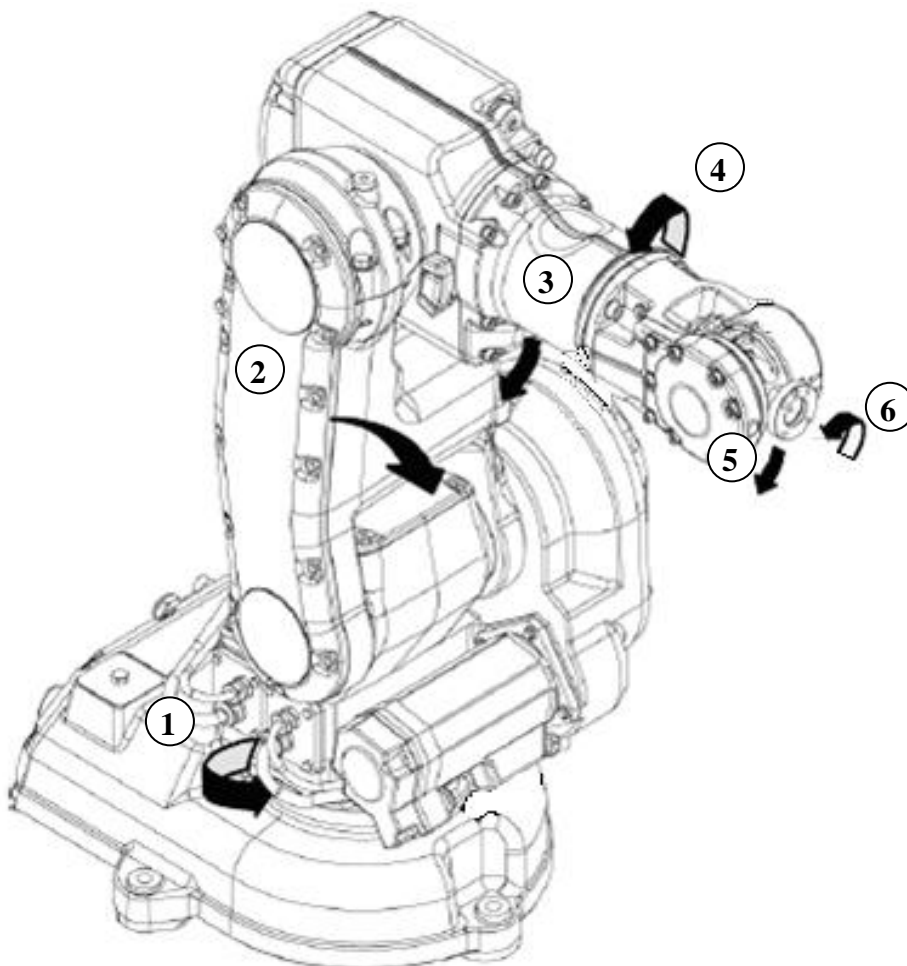
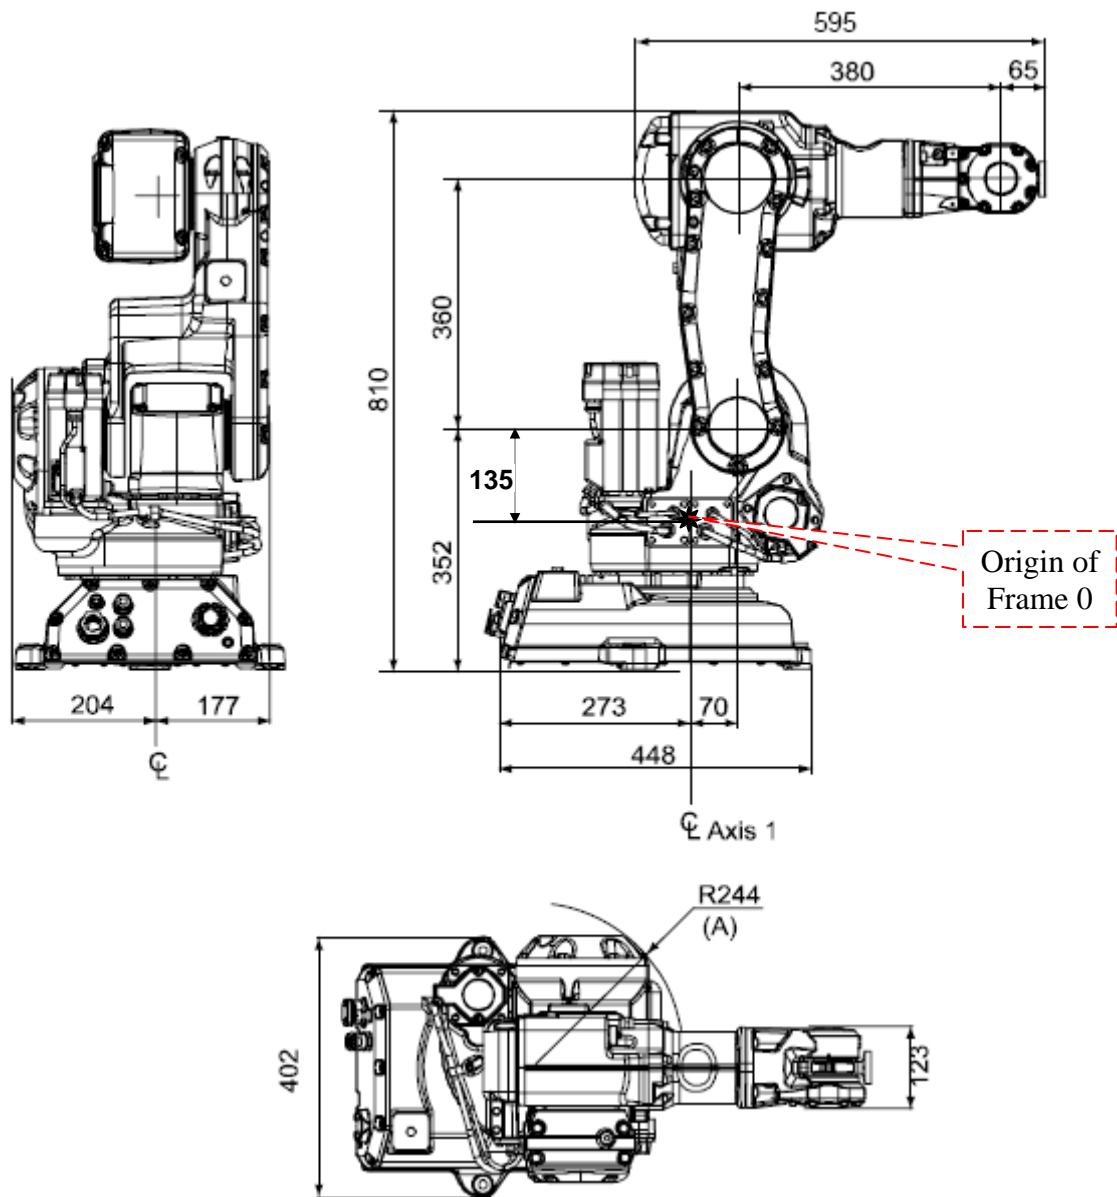
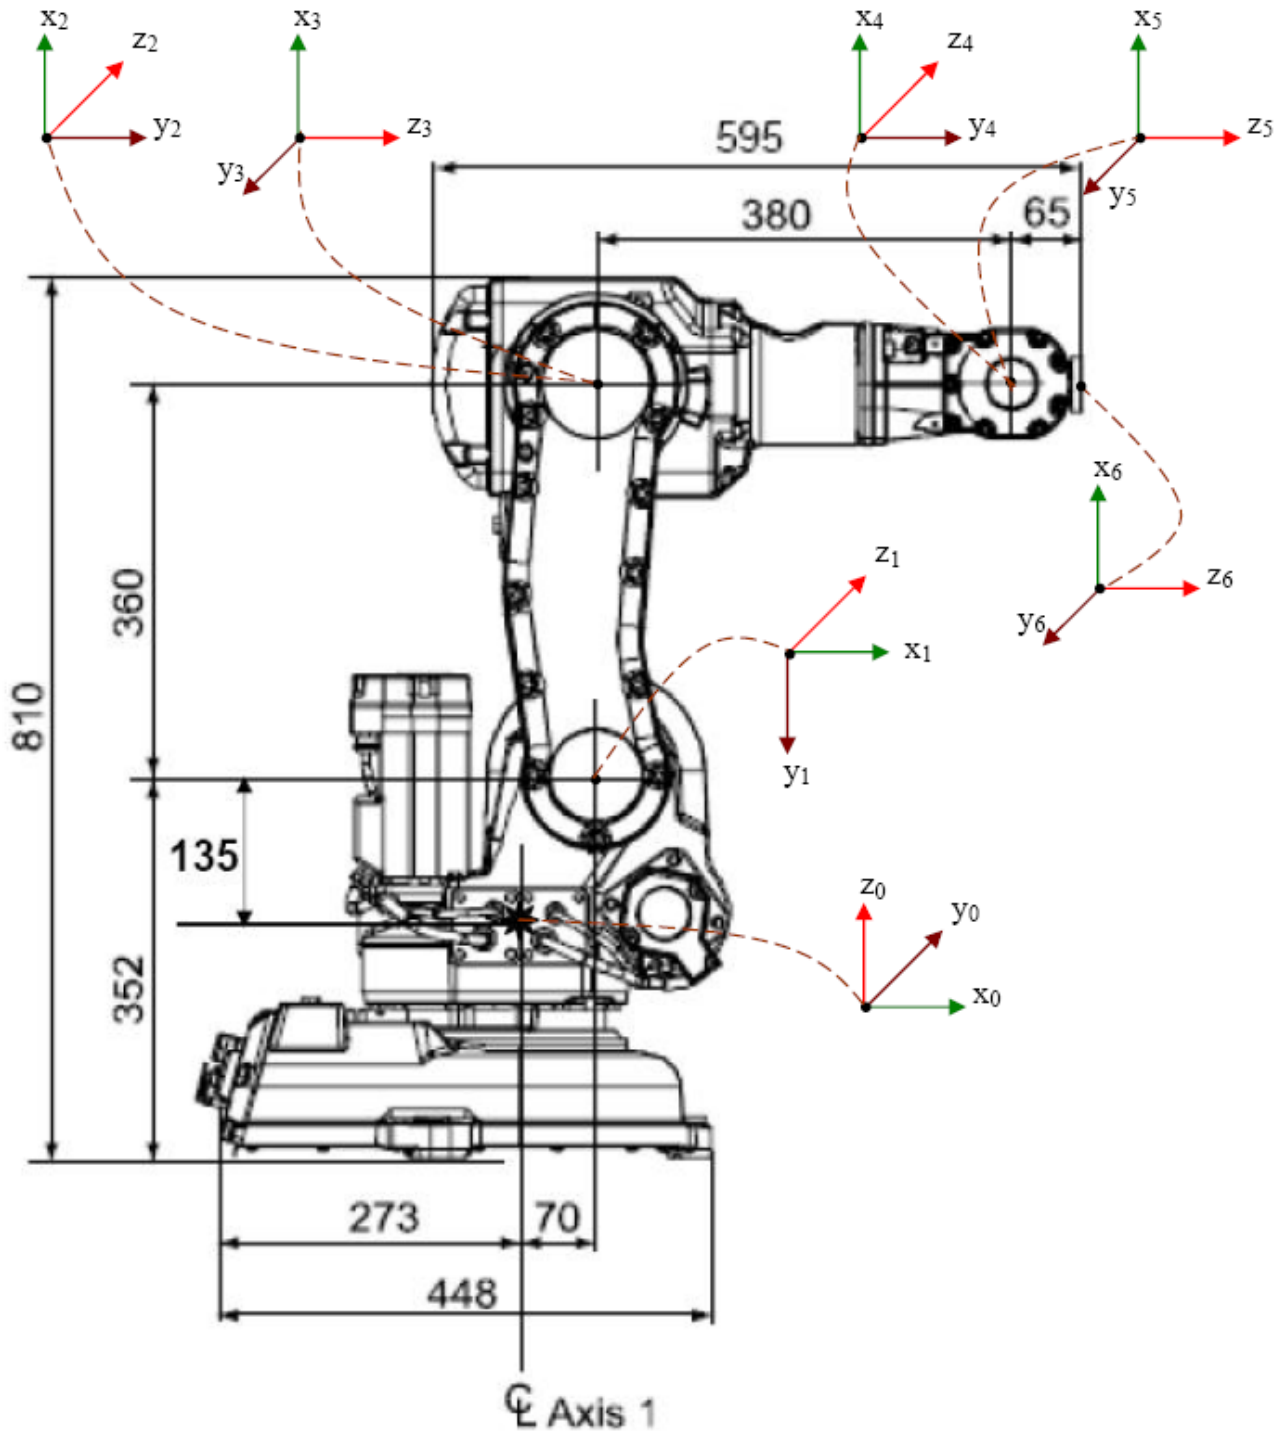

Fig. 1 The Robot (in home position)
Fig. 2 View of the robot from rear, side and top (dimensions in mm)
Fig. 5 Link co-ordinates of the robot
Fig.1 is a diagram of the robot depicting the various degrees of freedom. Numbers 1-6 indicate the six axes. Arrows shows positive direction of motion. The dimensions of the robot are shown in Fig.2. Table 1 gives the range of the angular movement of the various links.
The different co-ordinate frames of the robot are shown in Fig.5 (also refer Fig.1). You may either use these frames or may assign your own co-ordinates. The assignment should be done according to the following guidelines.
- The base frame (frame 0) should be as indicated in the Fig. 5.